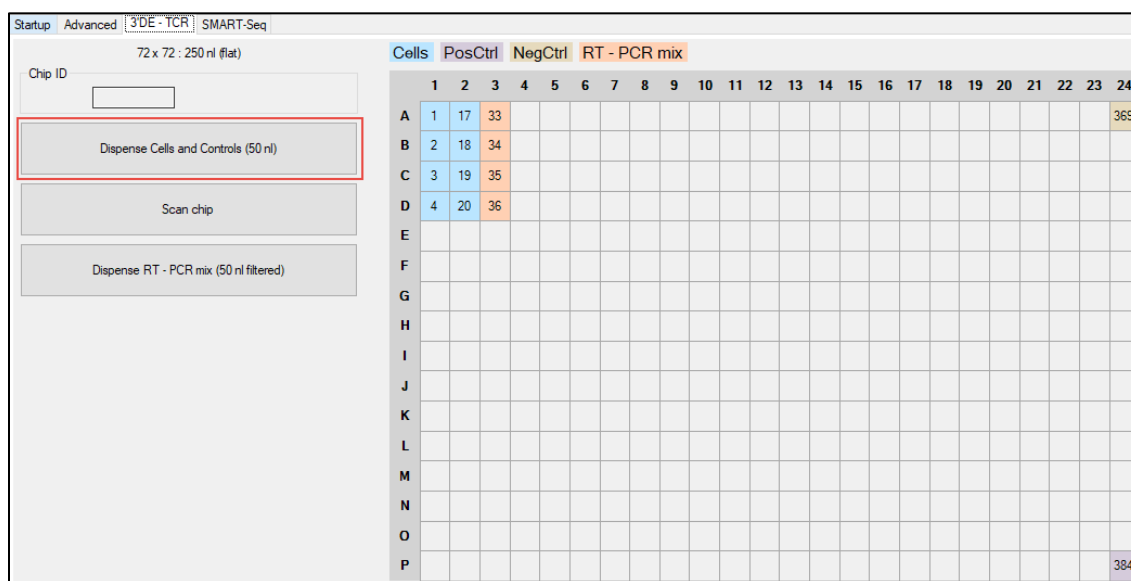

Figure 8. Using CELLSTUDIO Software to dispense cells into the ICELL8 cx TCR Chip.
- In CELLSTUDIO Software, click the [Dispense cells and Controls (50 nl)] button (Figure 8, below).